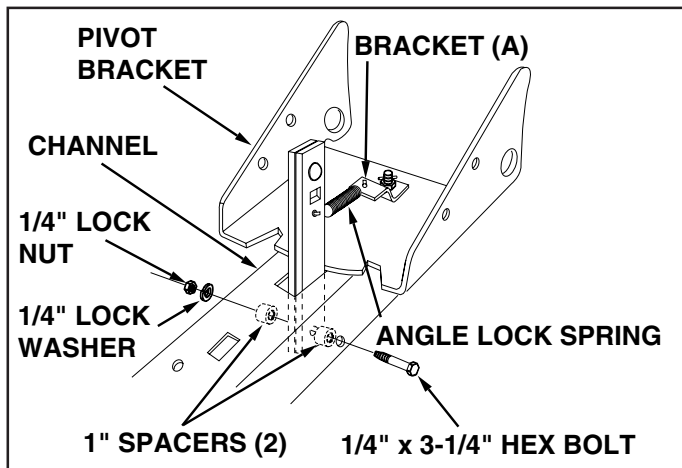

FIGURE 10 (Right Hand Side View)
- To assemble angle lock bars to channel use one 1/4" x 3-1/4" hex bolt, one hex lock nut and two 1" long spacers. Pull on angle lock bars to extend spring just enough to allow insertion of bars down through slot in channel and pivot bracket. Aligning the spacers on both sides of angle lock bars underneath channel, insert bolt through holes in sides of channel and through the angle lock bars and the two spacers. Assemble the lock nut to the bolt on outside of channel. Tighten so that lock bars pivot freely. See figure 10.